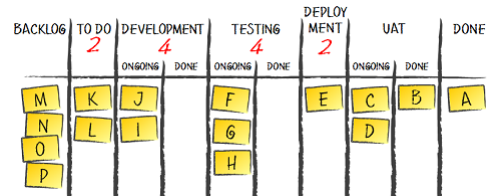

Fig. 1. Example Kanban for software development.[7]
However, Kanban has evolved to be more than that, and is currently not restricted to visualization, but is regarded as a lightweight framework for project management. The way it works is the following: you have a board with several columns, each representing a stage of the process. Then, you add to the first column the tasks you are starting, and move them to the next column as soon as they enter that stage of the process. In figure 1, one example of this mechanic would be: task J is under development, and as soon as it is considered *Done* it can be moved to testing. It may seem too simplistic, but we have to keep in mind Toyota's *Way Use visual control so no problems are hidden*. This is the visualization part, but there is more than meets the eye though, because as we said before, Kanban is more than visualization. Below we outline Kanban's core principles. We will elaborate on how to use a Kanban effectively throughout this section.
2) *Definition of done*: As in other agile methodologies, such as Scrum, it is pivotal to have a clear and strict definition of done, since tasks can only move from one column to the next when those conditions are met. This definition is stage-specific, meaning that in our example there must be a definition for Development, Testing, Deployment, etc. Example definitions for our Kanban in figure 1 could be, respectively: "Satisfies user story or fixes bug", "Passes all tests, including regression ones, and has at least 60% coverage" and "Is deployed in our production servers and users have access to it". The absence of such definitions decrease a team's velocity, since its members would have to stop being productive to wonder, or discuss, if a certain task should be moved to the next stage. When a task is considered Done in a certain stage, it is passed into that stage's Done sub-column, ready to be pulled (we will explain what this means in the following paragraph).
4) *Work in progress*: If tasks are picked and not assigned, there is the risk of stalling the system, having many tasks in the pipeline, but few in the final stage. It can also happen that team members decide to pull too many tasks for themselves, losing productivity to multi-tasking and context-switching. To avoid this kind of problem, as well as maintain a healthy flow in the system, Kanban uses limit the Work in progress (WIP). WIP means that there is a certain capacity associated to each column (besides the first and the last ones) and that you can't pull more tasks in a column that is already full. Both ongoing and done tasks contribute to reaching the WIP's capacity. In figure 1 you can see WIP red numbers. Each team must find the balance between having a low WIP, so they avoid the problems outlined earlier, but not so low that it starts getting